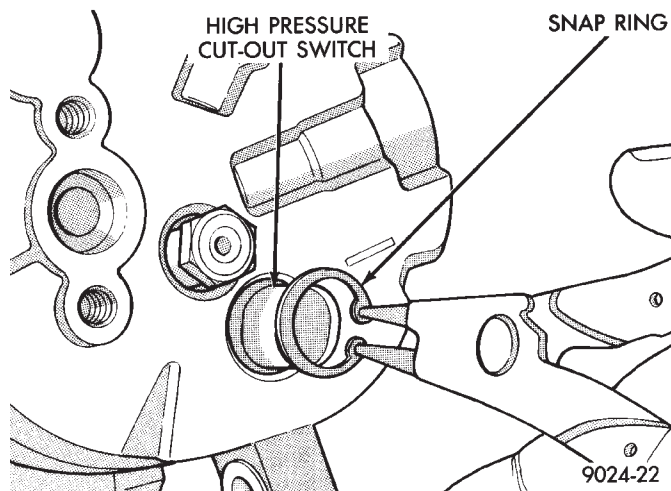

Fig. 7 Remove or Install Snap Ring
- (3) Remove snap ring securing the switch in the compressor end cover (Fig. 7).